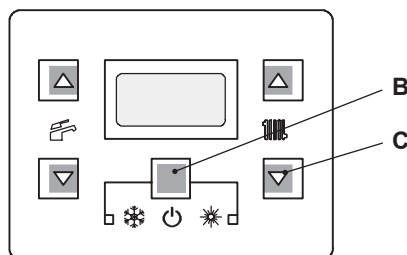

Figure 6.10
- 7 To exit for setting without modifying the set press the keys ("B - C" Figure 6.10).